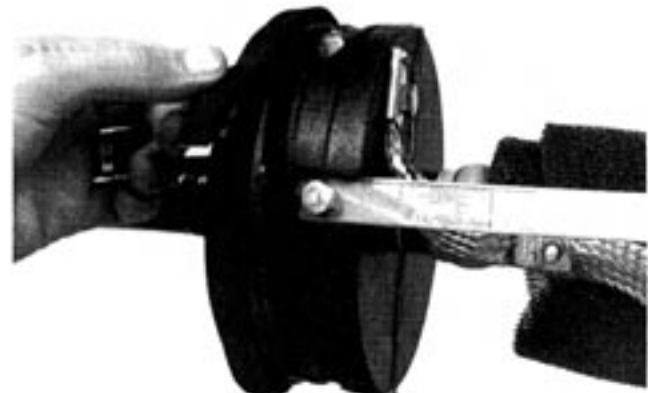

Figure 33 — Application of End Seals
11.02 Remove the backing and apply the neoprene end seals around the End Plates over the LOCK-TAPE™ Sealant wrap. (Figure 33) Overlap the ends of the end seal. Make sure the overlap is where the flange opening will be located.